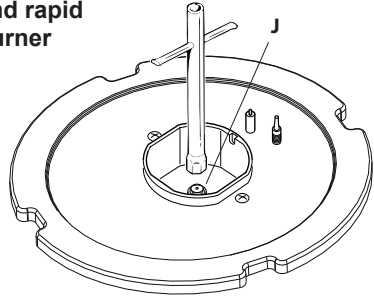

Fig. 2.2a
- Using a wrench, substitute the injectors "J" (figs. 2.2a, 2.2b, 2.2c, 2.2d) with those most suitable for the kind of gas for which it is to be used.